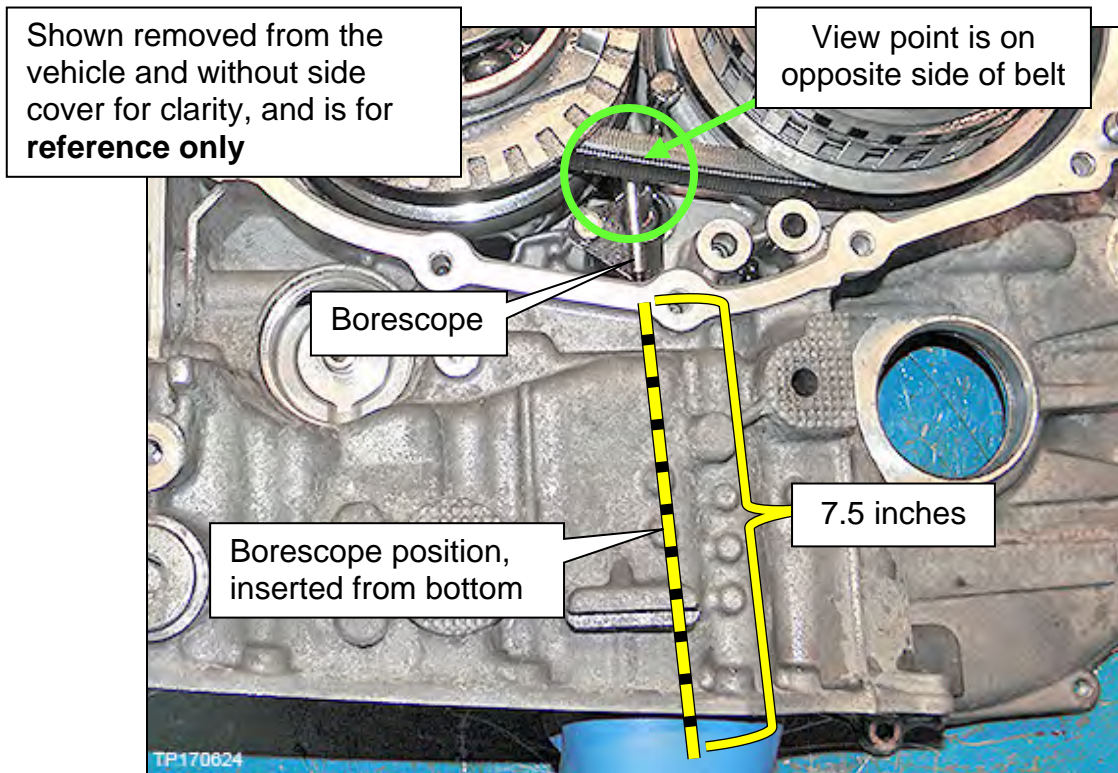

Figure 6C
- II. Insert the lens approximately 7.5 inches from the CVT oil pan gasket surface as shown in Figure 6C on page 14.